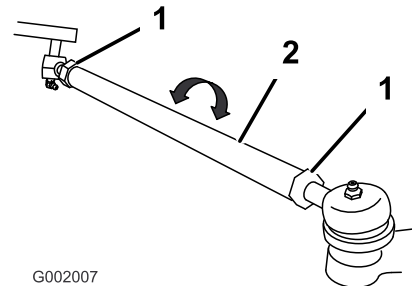

Figure 59
5. If the measurement does not fall within the specified range, loosen the jam nuts at both ends of the tie rods (Figure 59).